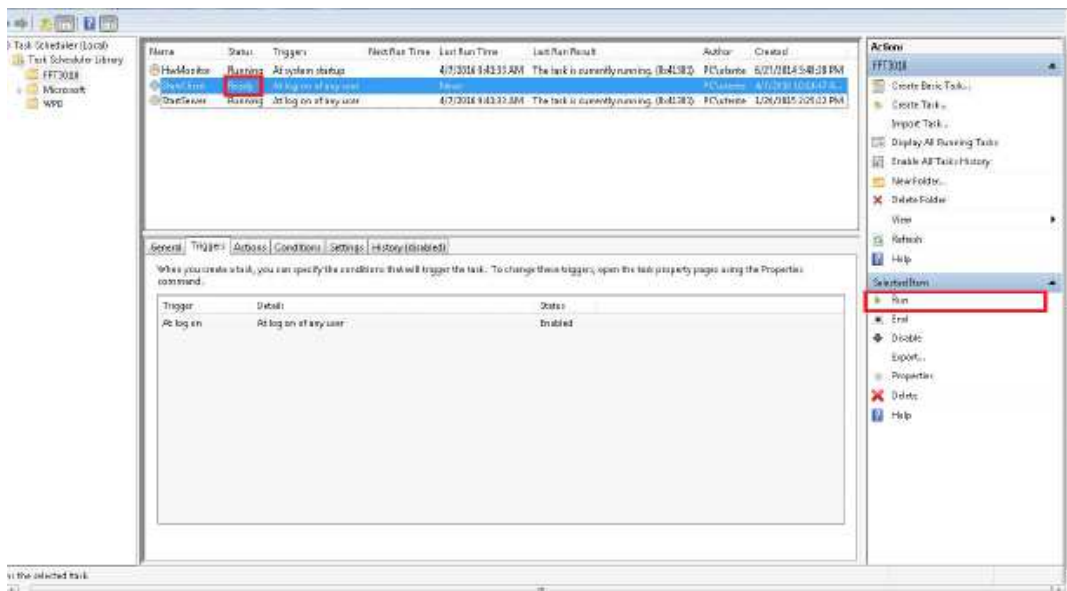

Fig. C.50: Status settings
STEP 17 – Right now the *StartClient* task shall be set in *Running* status. In the central panel of *Task Scheduler* application, the new *StartClient* task is added but *Status* is set to *Ready* according to Fig. C.50. Please execute *Run* in the right panel to modify the status.